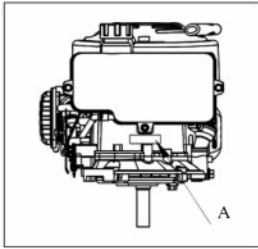

Fig. 15 A. Serial number location
13.1 SERIAL NUMBER LOCATION (See Fig. 15)